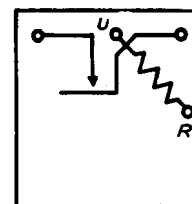

FIG. 18 - WINDING TERMINAL ARRANGEMENT AS VIEWED FROM THE REAR (TERMINAL SIDE) - 186 TYPE RELAY
2.16 As viewed from the front of the relay the top contact spring is indicated by 1 and the spring that is picked up by the armature stud by 2. The relative location of the winding terminals as viewed from the rear of the relay are shown on Fig. 18.